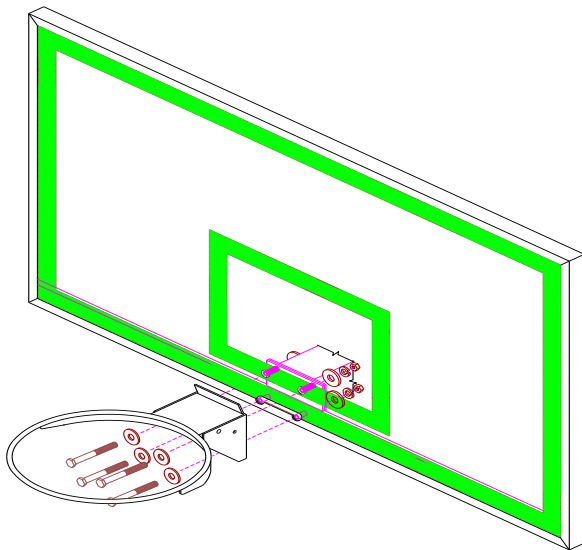

Figure 3
4. Mount the *Breakaway Goal* (L) and the *Backboard* (J) using $3/8"$ x $4"$ *Hex Bolts* (D) through the *Breakaway Goal* (L) and the *Backboard* (J) and the holes in the extension arm mounting plate and installing $3/8"$ flat washers, lock washers, and hex nuts that are included in the *Breakaway Goal Hardware* (M). See Figure 3. **Leave hardware finger tight only.**